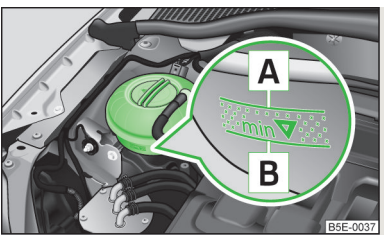

Fig. 178
When refilling, only use the same antifreeze written on the antifreeze expansion tank » Fig. 178 on page 200.
- Do not fill the coolant above the mark **A** » Fig. 178 on page 200.
- Check the level of coolant in the coolant expansion bottle » Fig. 178.